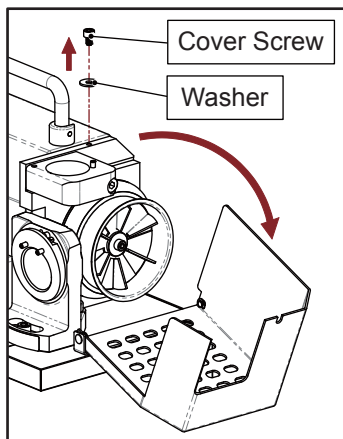

Fig. 12-2
- ③ Loosen the screw from the grinding wheel cover to open the cover. (Fig. 12-2)